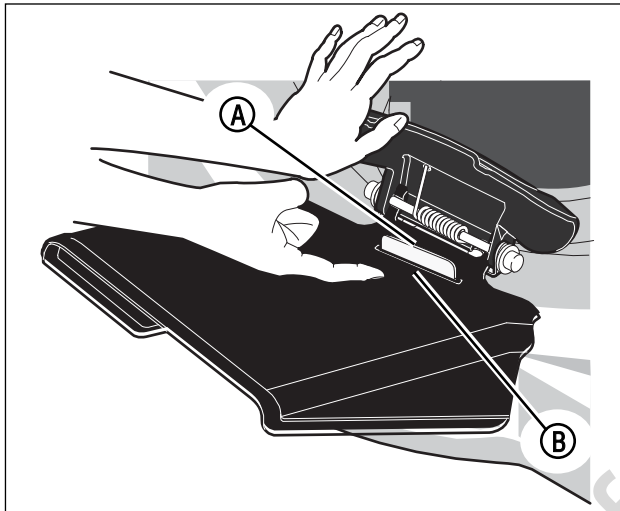

Figure 9: Deflector locking tab
- The locking tab on the deck (**A, Figure 9**) goes through the slot in the deflector (**B**).